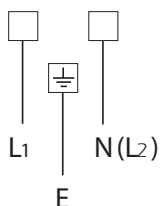

Fig. 4
- *Connect the new supply cable, of suitable type and section, to the terminal board following the diagram in Fig. 4.*